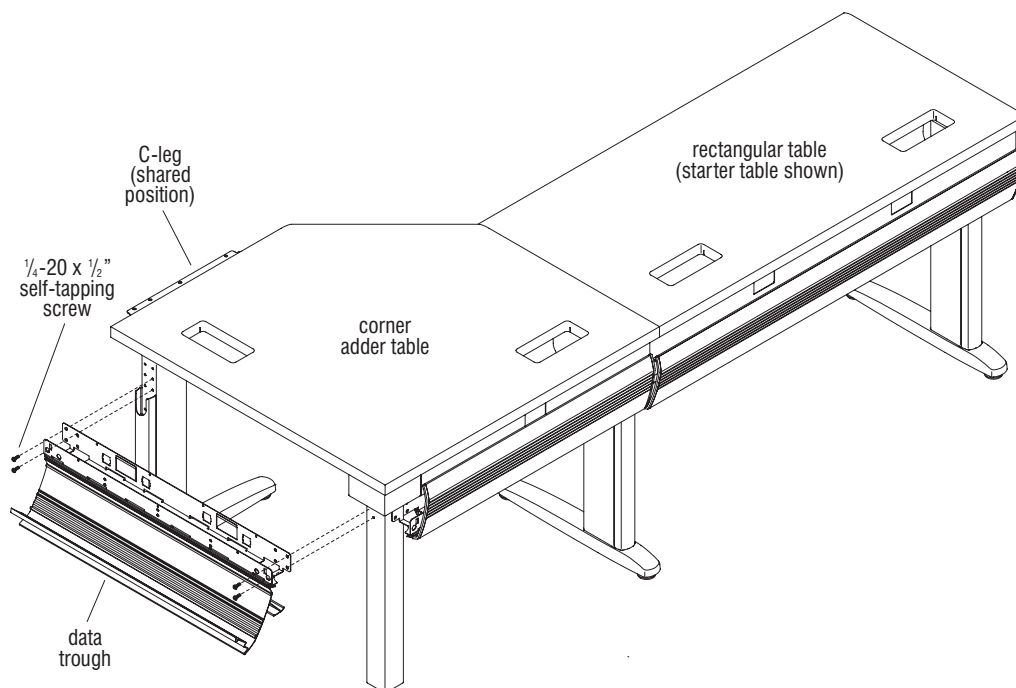

Figure 14
7. Open the doors on the data trough to be installed. Proceed to the non-user side of the adder corner table. While facing the back, non-user side of the table, align the mounting holes of the data trough with the mounting holes on the back of the C-leg and corner leg. The adder corner table utilizes a shared position C-leg, reference page 10, Detail M for correct holes and mounting location on the C-leg. Secure the data trough to the legs using two $\frac{1}{4}$ -20 x $\frac{1}{2}$ " self-tapping screws per leg (Figure 14).